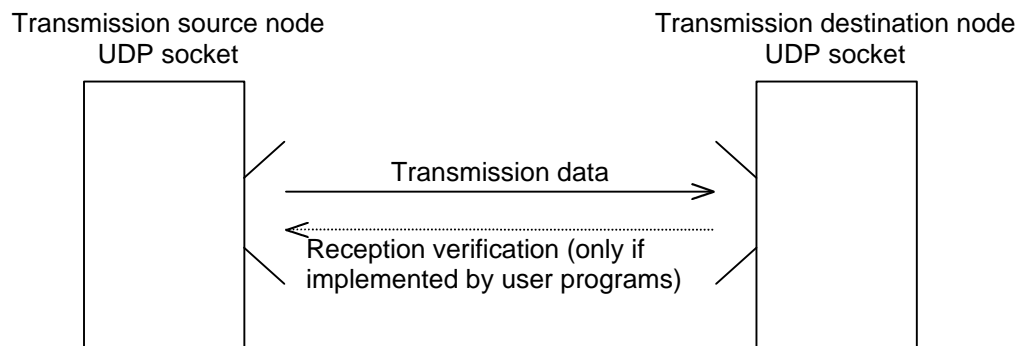

Figure 6.2 UDP Sockets
a. UDP socket interface (See figure 6.2.)